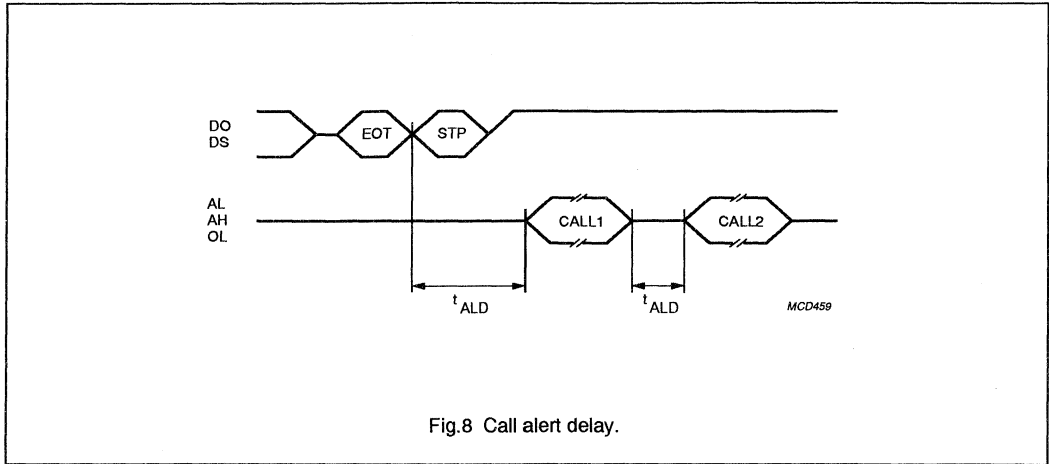

Fig.8 Call alert delay.
When valid calls are received while operating in ON status, the PCF5001 generates call alert cadences. The first four seconds are generated at LOW-level, a further twelve seconds are generated at HIGH-level. Alert tone generation and LED indication automatically terminate after sixteen seconds unless terminated by pulsing the status request and reset input (SR). Call alert generation is inhibited until completion of message codeword reception and the termination word is sent by the decoder. Call alert generation commences after an alert delay period,  $t_{ALD}$ , at the earliest, see Fig.8. Call alert deletion is possible during the alert delay period.